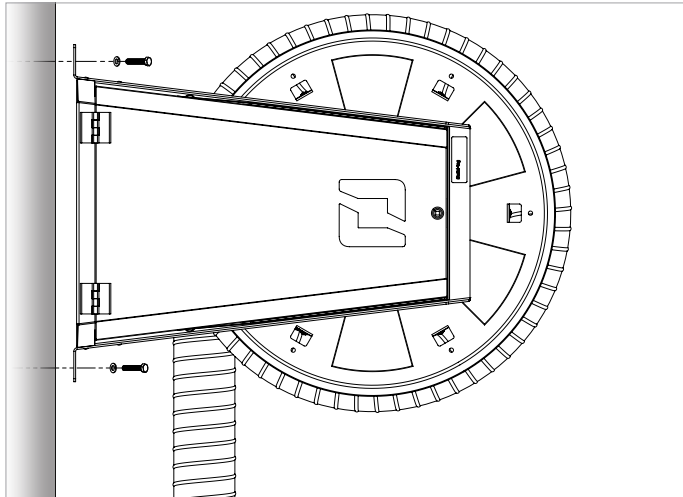

Fig. 4.4 MHR mounting on wall
- Use the limit-adjusting pole to set the limit position according to the motor's direction. "+" means increasing the hose's moving space, "-" means reducing the hose's moving space. Refer to fig. 4.4 below.